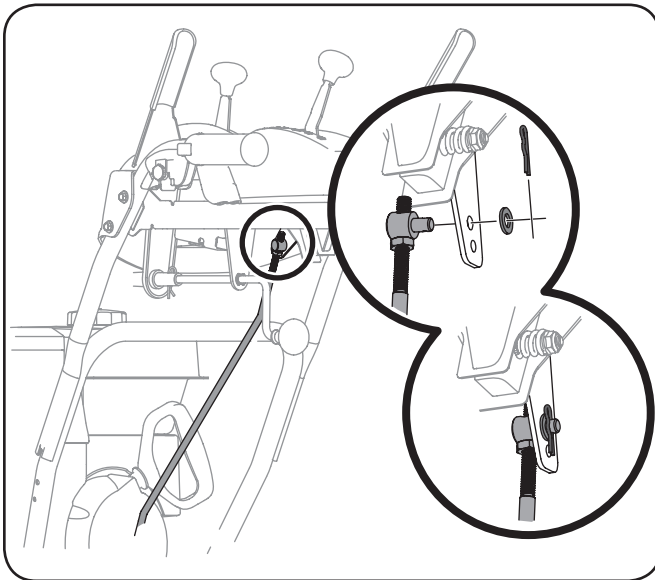

Figure 3-9
7. Remove the cotter pin and washer from the ferrule on the end of the shift rod. See Figure 3-9 inset.